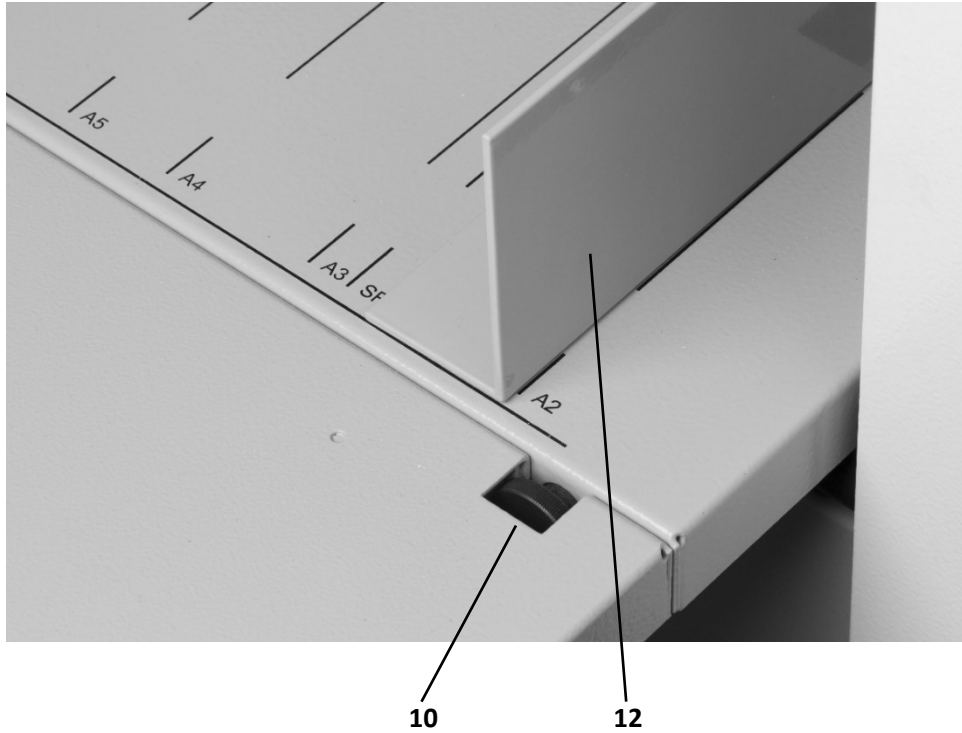

Fig. 7: Setting the Side Guides
Use the side guides turning screw (10) to set the side guides (12) perpendicularly with the tool. The side guides are set in the initial position (perpendicular to the tool) if the rear edge of the right side guide aligns with the feeding table line (fig. 7).
Note: It is recommended to set the side guide perpendicularly in the position as shown in Fig. 7. Besides the line parallel to the tools, the A2 position line may also be of assistance when identifying the correct side guide position (the A2 position line must be parallel to the side guide).